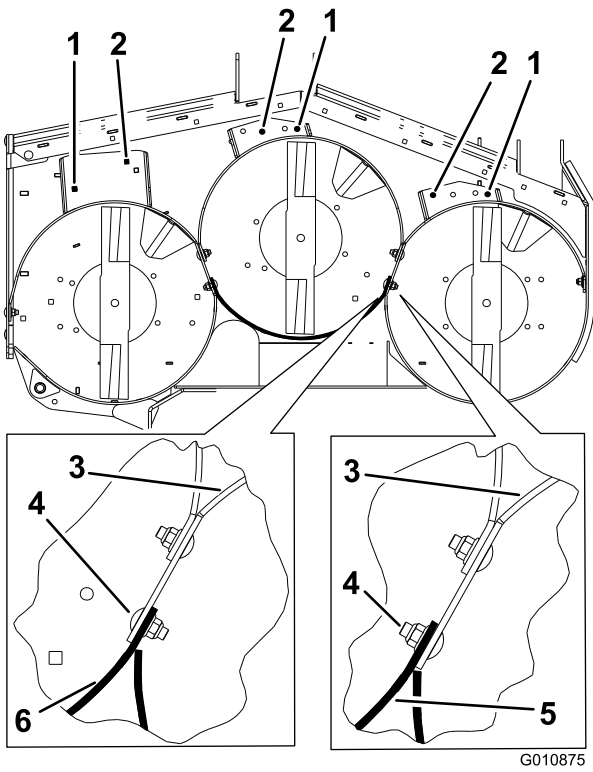
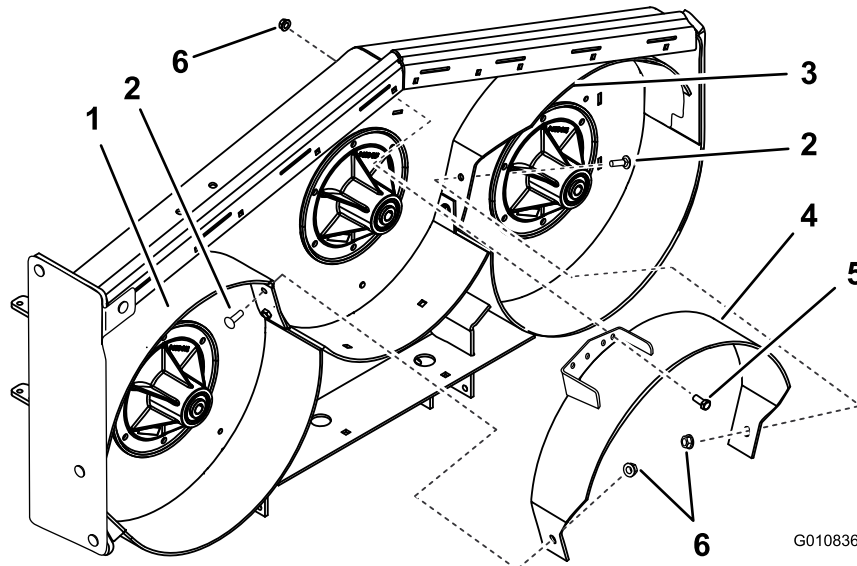

Figure 10
Figure 11
3. Loosely install the right baffle to the top of the mower deck with 1 carriage bolt (3/8 x 1 inch) and 1 flange nut (large flange), (3/8 inch) (Figure 9). Refer to Figure 10 for the correct holes to use and the position of the baffles.
6. Loosely install the left baffle to the top of the mower deck with 1 bolt (3/8 x 1 inch) and 1 flange nut (small flange) (3/8 inch) (Figure 9). Refer to Figure 10 for the correct holes to use and the position of the baffles.
10. Loosely install the center baffle to the left baffle with 1 carriage bolt (3/8 x 1 inch) and 1 flange nut (small flange) (3/8 inch) (Figure 11). Refer to Figure 10 for the correct holes to use and the position of the baffles.
11. Loosely install the center baffle to the right baffle with 1 carriage bolt (3/8 x 1 inch) and 1 flange nut (small flange) (3/8 inch) (Figure 11).
12. Loosely install the center baffle to the top of the mower deck with 1 bolt (3/8 x 1 inch) and 1 flange nut (small flange) (3/8 inch) (Figure 11).